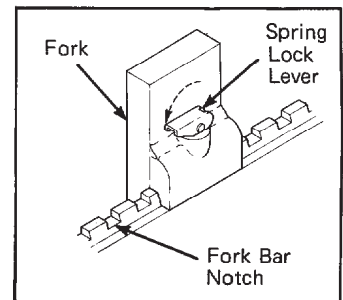

Figure 7. Lock Fork in Place
4. Lock each fork in place by pushing the lever down as shown in Figure 7, making sure the pin is engaged in the fork bar notch.